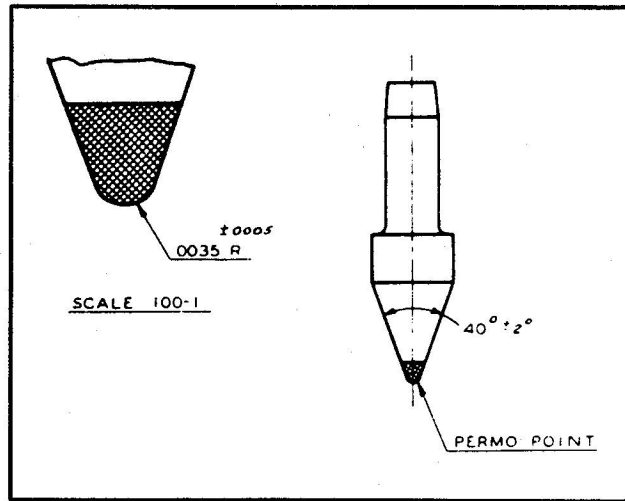

Figure 2-5. Details of Pivot
a. If the pivot can be made usable by stoning, it should be polished with a flat, white, Arkansas stone while the pivot is turning in a lathe, but care must be used to maintain the same pivot contour as shown in figure 2-5.